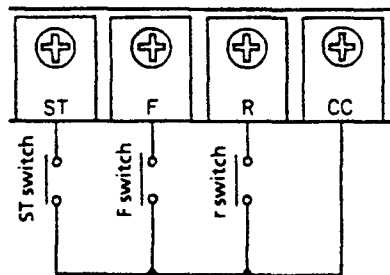

Figure 3.11 Forward and reverse runs switches
- 2) Set switches on the control circuit terminal block as shown in Figure 3.11.